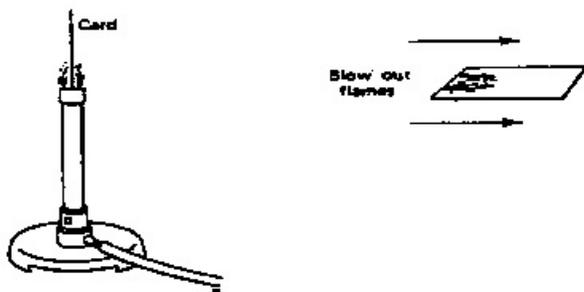

Figure 2
2. A scorch card provides an easy way to visualize the temperature distribution in a flame. A scorch card is simply a 3 x 5 index card that is held vertically in the flame with the bottom resting on the top of the burner, until it starts to catch fire. At this point, quickly remove the card, turn it sideways, and blow out the flame on both sides of the card at the same time (Figure 2). The scorch marks clearly show the temperature gradients within the flame. Attach this scorch card to your lab report.